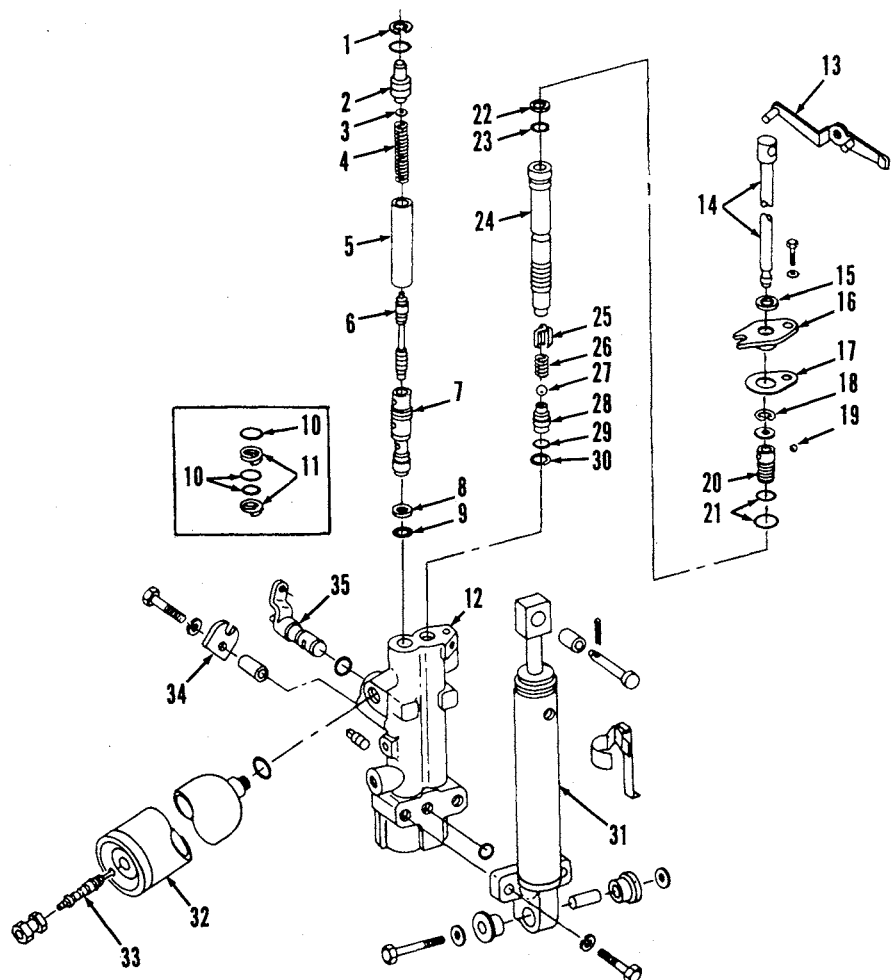

Fig. 238—Exploded view of Hydracushioned seat control valve assembly.
Remove front cover from seat support. Remove retainer plate (16—Fig. 238) from top of valve housing.
Remove seat cylinder and accumulator from valve housing. Remove manifold from bottom of valve housing. Remove cap screws securing retainer plate (16—Fig. 238) and withdraw position rod (14), piston (20) and valve sleeve (24) as an assembly. Remove snap ring (18), then separate components being careful not to lose the small steel ball (19). Remove check valve assembly (25 through 30). Remove snap ring (1), plug (2) and pressure regulating valve assembly (3 through 9). Be sure to retain shims (3) for use in reassembly.
sleeve is correctly installed. Complete assembly of valve in reverse order of disassembly. Tighten retainer plate (16—Fig. 238) mounting cap screws and manifold mounting cap screws to 35 ft.-lbs. (47 N·m). Check accumulator precharge as outlined in paragraph 227.